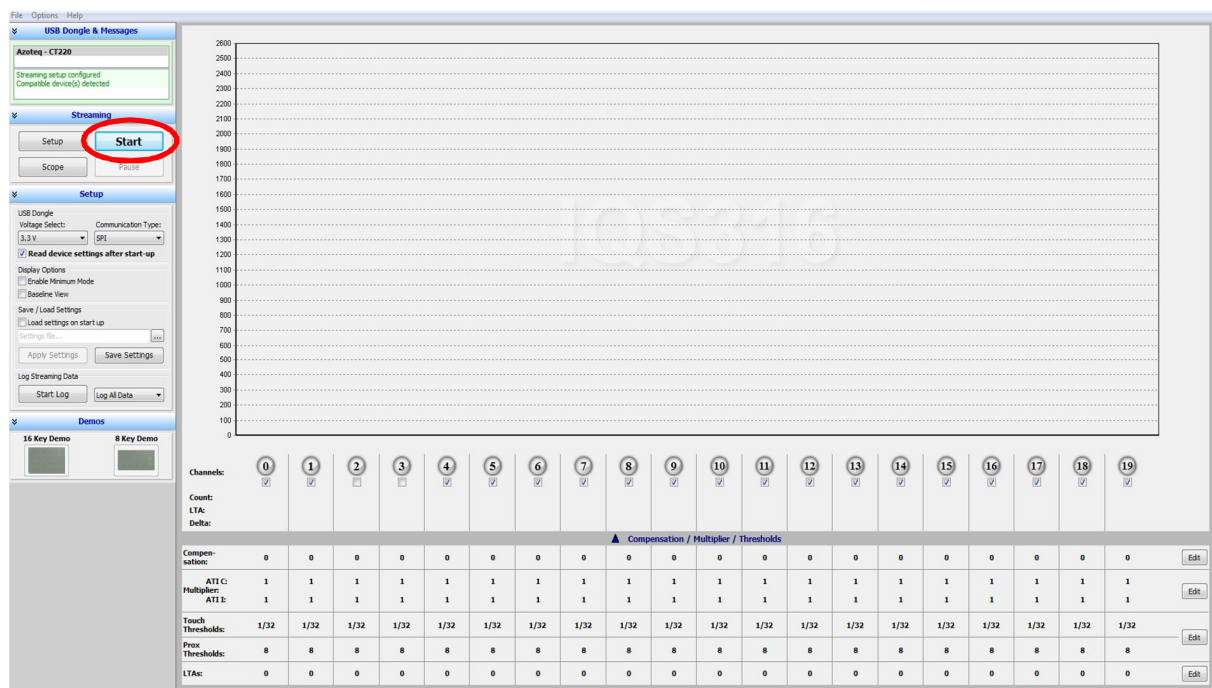

Figure 5.1 Start-up Screen for the IQS316 GUI
- ☐ After opening the GUI, the following screen is displayed as illustrated in Figure 5.1.
- Click on “Start” as illustrated in Figure 5.1.